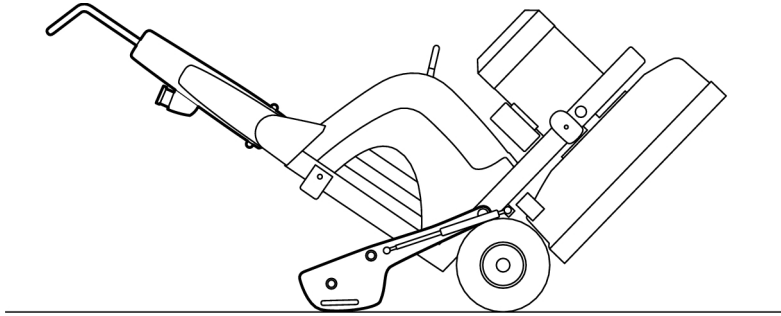

Figure 4-10. Fold back
3. Tip the machine backwards carefully, until the weights reach the floor, see Figure 4-10, page 23.